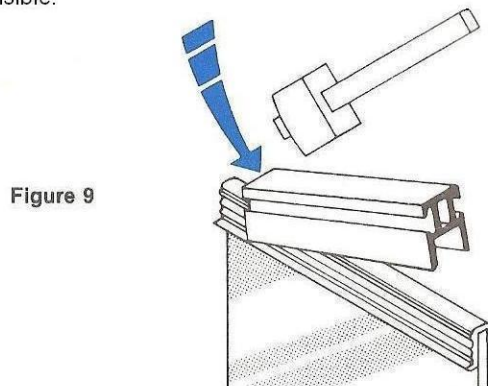

Figure 9
d) Place a cut length of Section E centrally over the gasket, leaving a gap of 8mm at each end. Starting at one end, gently tap it down (Figure 9). Avoid hitting the aluminium with a metal tool.